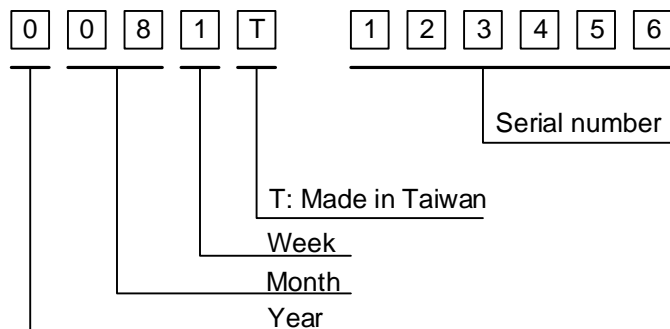

Fig. 10.1
1) The lot mark is showing in Fig.10.1. First 4 digits are used to represent production lot, T represented made in Taiwan, and the last 6 digits are the serial number.